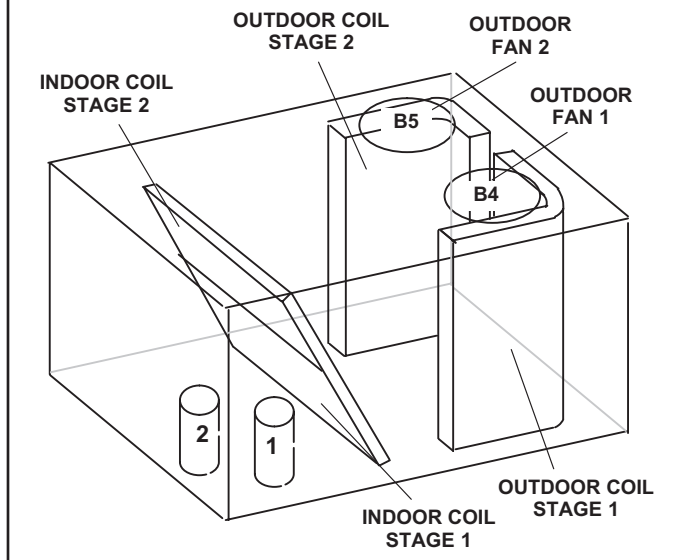
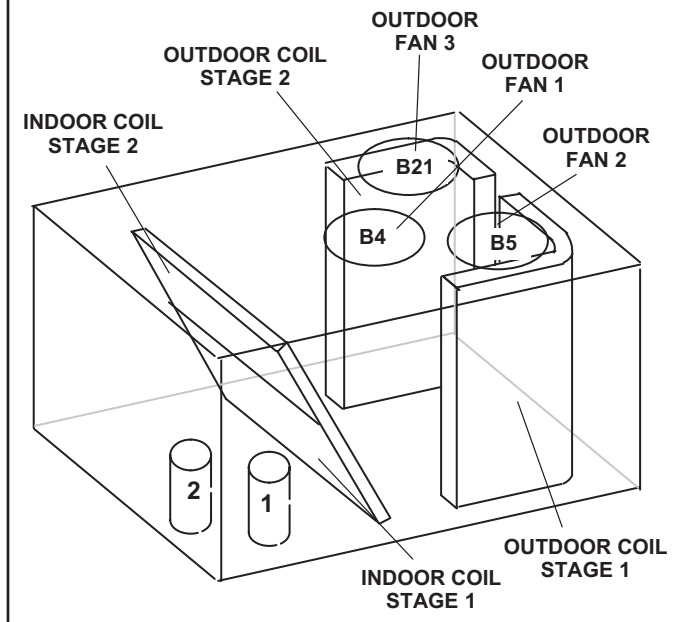

FIGURE 11
FIGURE 12
- 3 - Units have two refrigerant circuits. See FIGURE 11 or FIGURE 12.